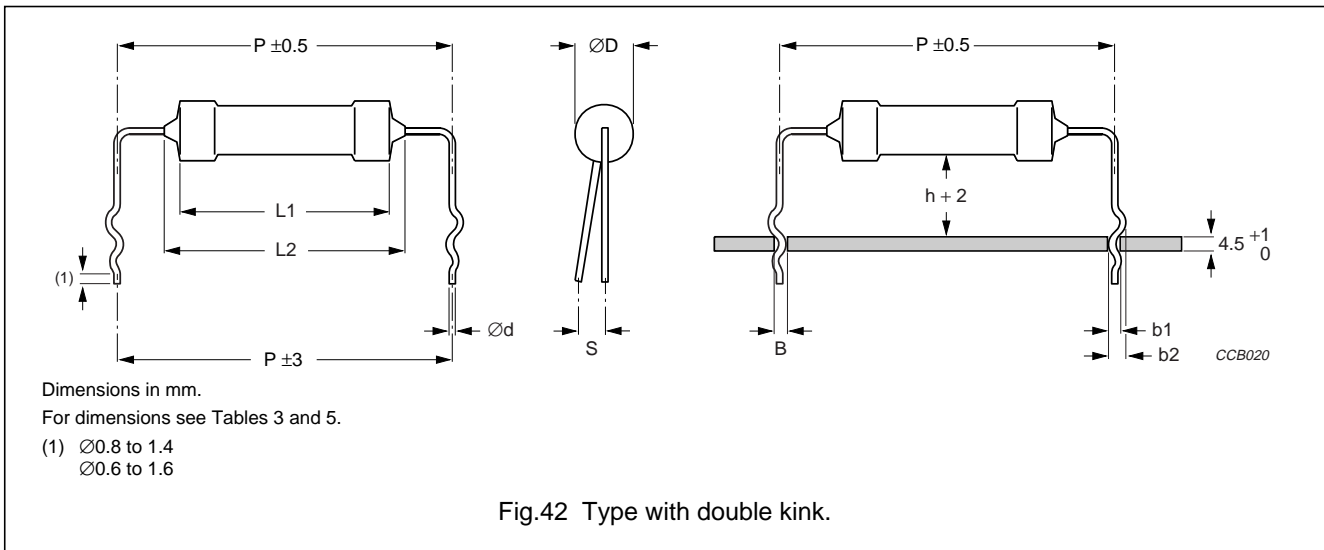

Fig.42 Type with double kink.
**Table 5** Double kink lead type and relevant physical dimensions; see Fig 42